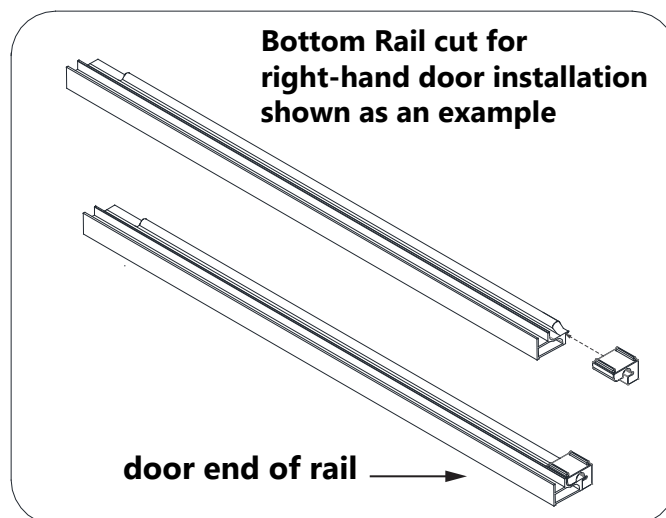

Fig 3
3. Attach the **U-Channel Support Block (#21)** to the door end of the **Bottom Guide Rail (#03)**. (Fig 3)